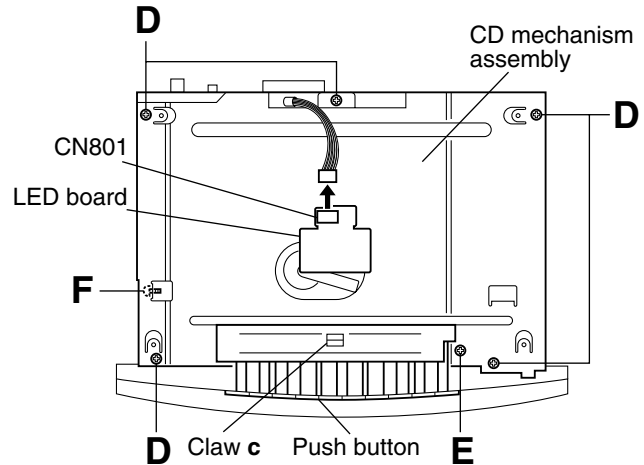

Fig.5
■ Removing the CD mechanism assembly (See Fig. 5.)